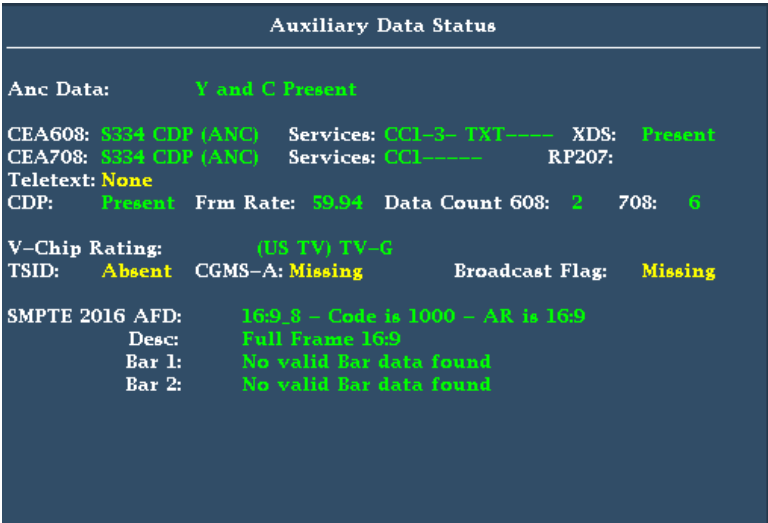

Figure 75: Auxiliary Data Status display
4. Select **Aux Data Status**. The Auxiliary Data Status display shows the status of the closed caption data. (See Figure 75.)
View the graticules in the Picture display. AFD information can viewed in the Auxiliary Data Status display. (See Figure 75 on page 161.)